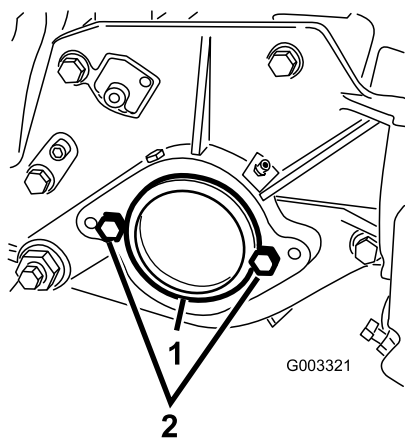

Figure 16
2. On right end of cutting unit, remove the plastic plug from the bearing housing (Figure 16).
3. Remove the 2 cap screws from the right side plate (Figure 16).
5. Loosely install the 2 reel motor mounting cap screws to the left side plate of the cutting unit (Figure 16).